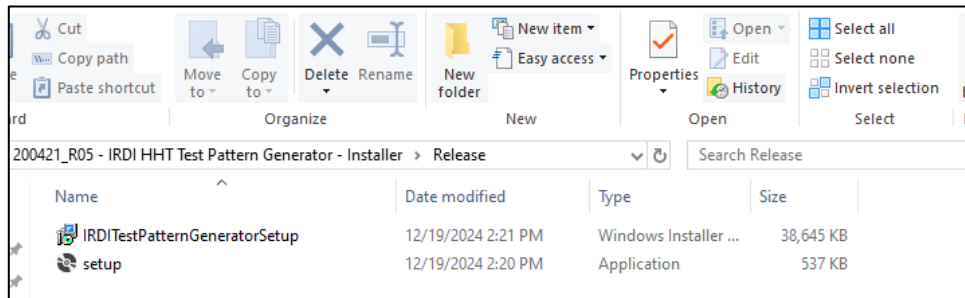

FIGURE 5-4 INSTALLER FILE LOCATION
STEP 1	<p>Download the test pattern generator software installer from https://irdisystem.com/software/. Locate the installation files for 200421_R05 - IRDI HHT Test Pattern Generator.</p> <p>Double-click on “setup” to begin – see Figure 5-4.</p>